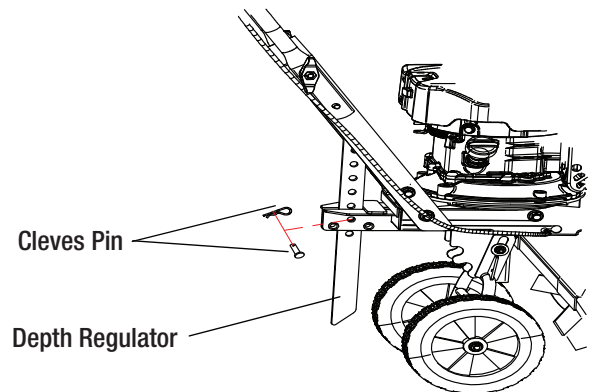

Figure 1-3
- First attach the depth regulator to the drag bar holder, choose proper height and then lock the depth regulator with a clevis pin. See Figure 1-3.